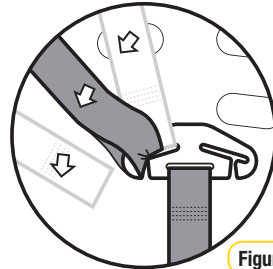

Figure 1.2
- Remove each shoulder harness through the gates in the spreader plate (refer Figure 1.2).